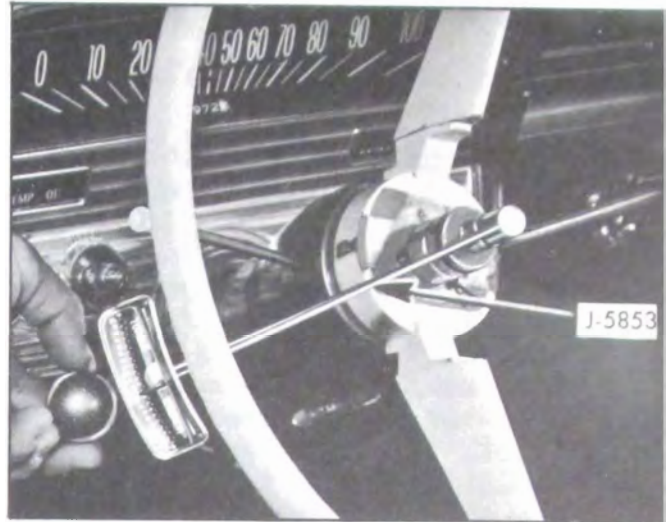

Figure 8-38—Checking Adjustments in Car
4. Turn steering wheel to extreme right or left position. Attach torque wrench J-5853 to steering wheel retaining nut and check the torque required to turn the wheel steadily in the range where lash normally exists between rack-piston nut and pitman shaft sector. See Figure 8-38. The lash range exists for one-